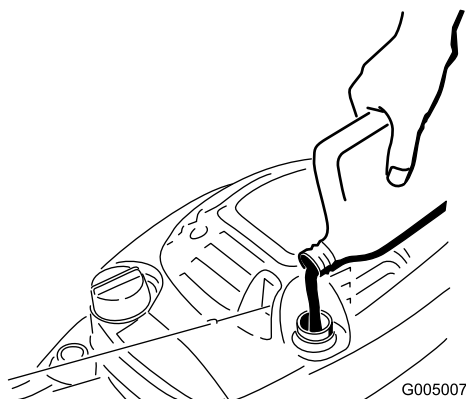

Figure 27
4. **Slowly** pour oil into the oil fill tube until the oil level reaches the **Full** line on the dipstick (Figure 27). **Do not overfill.** (Max. fill: 20 oz., type: SAE 30W detergent oil with an API service classification of SF, SG, SH, SJ, SL, or higher.)